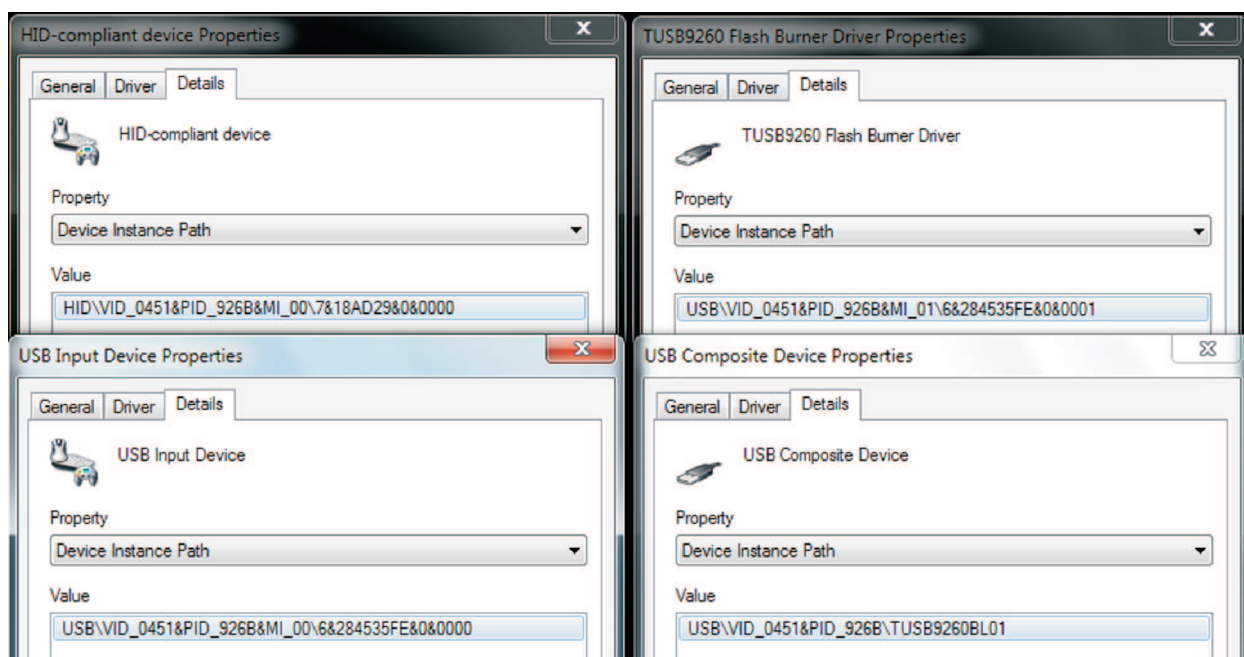

Figure 2-8. Instance Properties When Blank or Not Connected SPI Flash
1. Instance properties for a TUSB9260/TUSB9261 EVM board with blank, previously erased or not connected SPI Flash (see Figure 2-8).